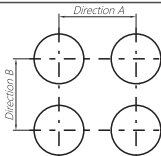

Figure 1 Minimum distance between center of mounting hole
1) See Figure 1 and Table 2 for minimum distance between the center of mounting holes. See Table 3 for installation dimensions of button control box.